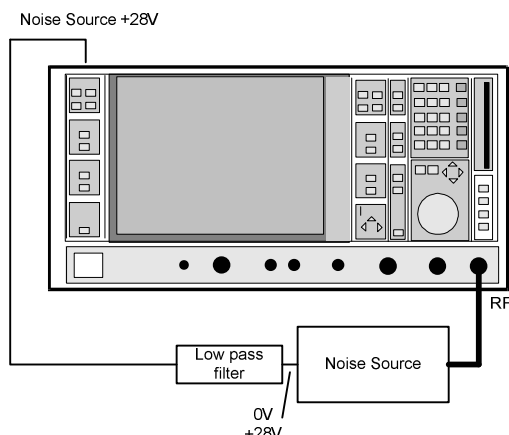

Fig. 1 Preparation for calibration
1. Connect the noise source to the RF input of the spectrum analyzer. (see Fig. 1)